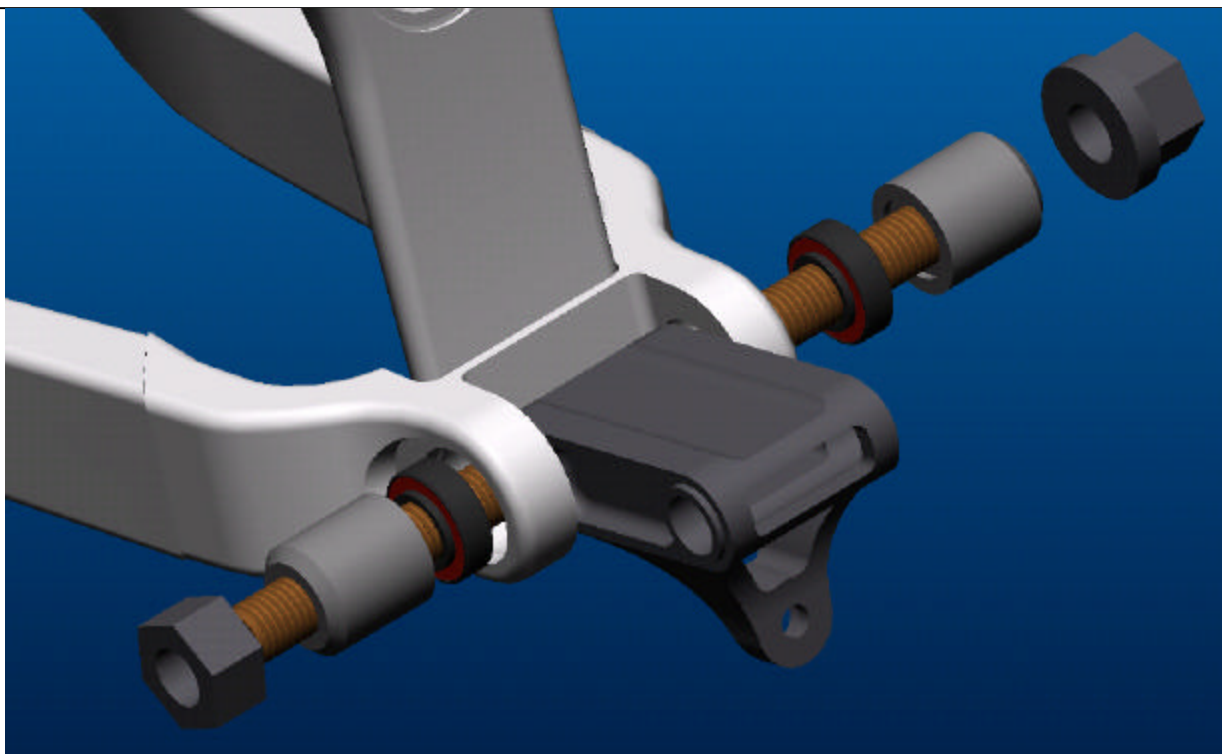

Figure 2 – Pressing Bearings into CS Yoke
5. Take out the Free Press Tool and find the parts shown below in Figure 2. Arrange the left side as shown – be sure to orient each of the parts correctly. The Lower Link only goes on in this way, and the tools can damage the bearings if not oriented as shown.
Use the cotton swab to apply 609 Loctite to the clean bearing bore surfaces in the yoke. Take the tool and arrange all the pieces as shown in Figure 2. It's easiest to turn the flange nut, so just hold the hex, and spin slowly. Watch the bearings carefully. **IF ONE IS NOT PRESSING IN PERFECTLY STRAIGHT, YOU MUST STOP AND REMOVE THE BEARING.** Use a blade to remove any burrs created by the crooked bearing and begin again. Take your time. The bearings should be pressed up against the link so there is no lateral (side to side) play in the link. Remove the tool and replace with a short axle. Put a washer and bolt on the other end and tighten it. Sweet.